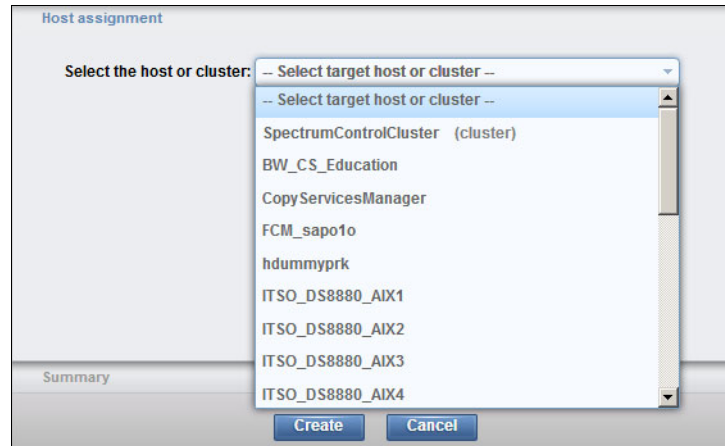

Figure 11-58 Advanced FB Volume by Volume Set Host Mapping
9. In the Host Assignment section, select a host from the list to map the volumes to, as shown in Figure 11-58.